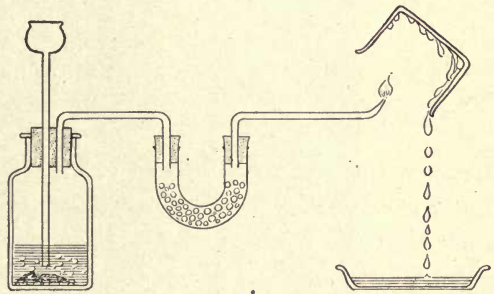

FIG. 93. — Burning Hydrogen.
**Properties of Hydrogen.** — Hydrogen is the lightest known substance, weighing only one sixteenth as much as oxygen. A liter of hydrogen weighs .09 gram. Like oxygen and nitrogen, hydrogen is a colorless, odorless, and tasteless gas. In testing the gas for its purity, it was noticed that the less the quantity of air mixed with it the less violent the explosion; and we learned also that hydrogen would burn. However, if we desire to burn hydrogen in a jet, we must exercise some care in lighting it in order to avoid the possibility of a dangerous explosion. Arrange the apparatus as shown in the diagram (Figure 93).